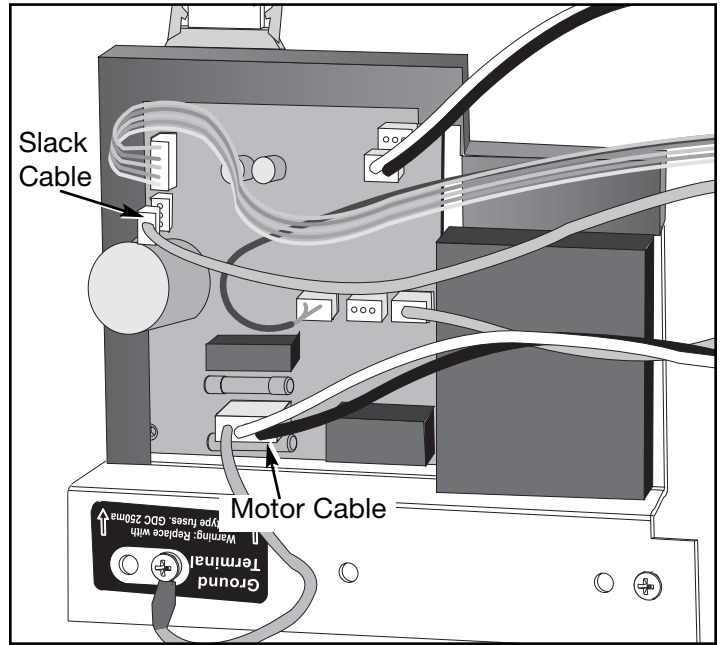

Figure 2
- A. Disconnect the motor cable and slack cable from the lower board. See Figure 2.
- A. Connect the motor cable and the slack cable to the lower board. See Figure 2.